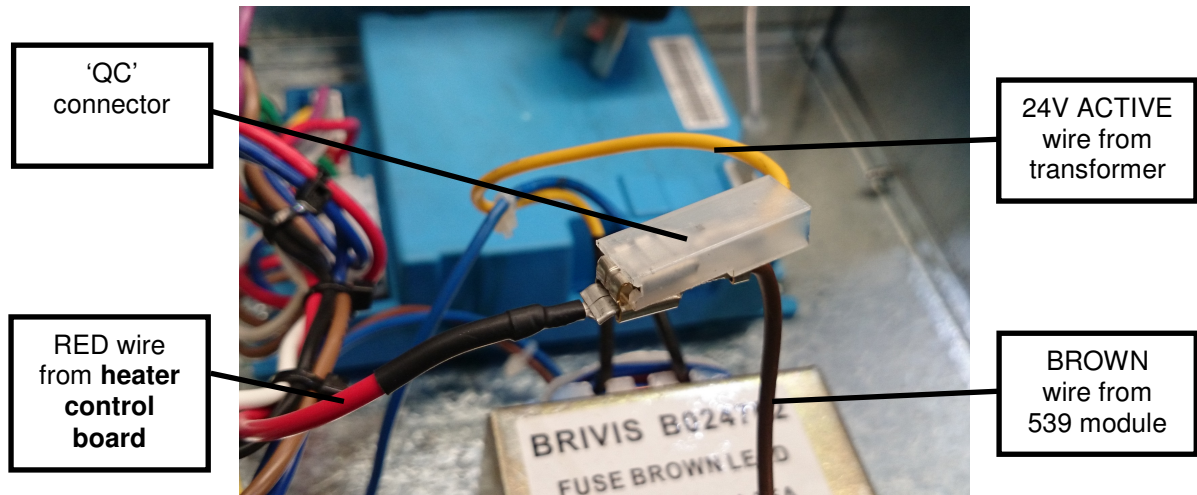

Figure 3
- 1.3 Connect the BROWN wire from 539 Interface Module with the RED 24V wire previously disconnected in step 1.2. Then connect both these to the 24V ACTIVE 'QC' connector. See **Figure 3**